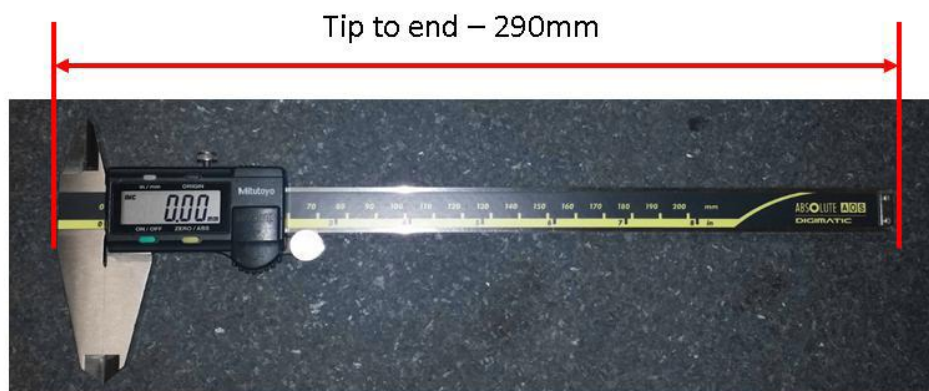

Figure 2 Caliper Length (Reference Pic Only)
8. Add up entire Caliper Length (Figure 2) with exact width of AWA